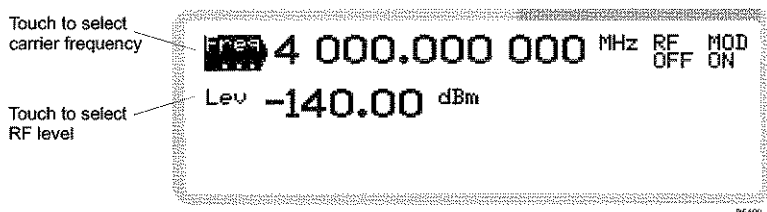

Fig. 3-17 Main screen
Press **SIG GEN** to see the main screen (Fig. 3-17), from which you can set up parameters associated with the instrument's carrier frequency and RF level.
- 1 Touch **Lev** to select the RF level menu on the main screen (Fig. 3-17).